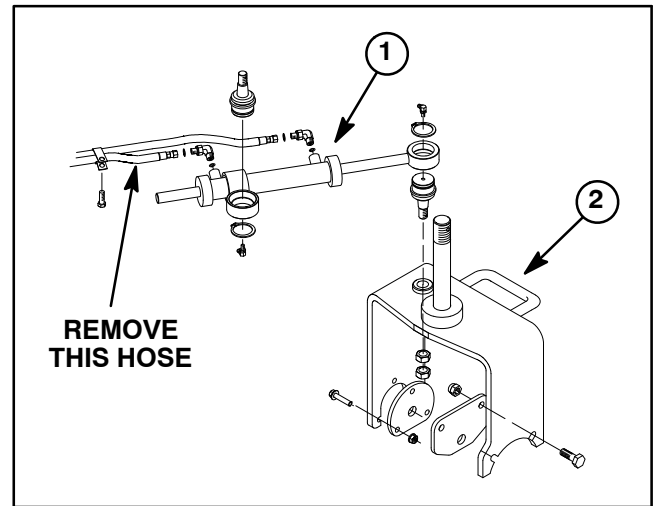

Figure 28
E. Remove hydraulic hose from the 90° fitting on the ball joint end of the steering cylinder (Fig. 28). Plug the end of the hose with a steel cap.